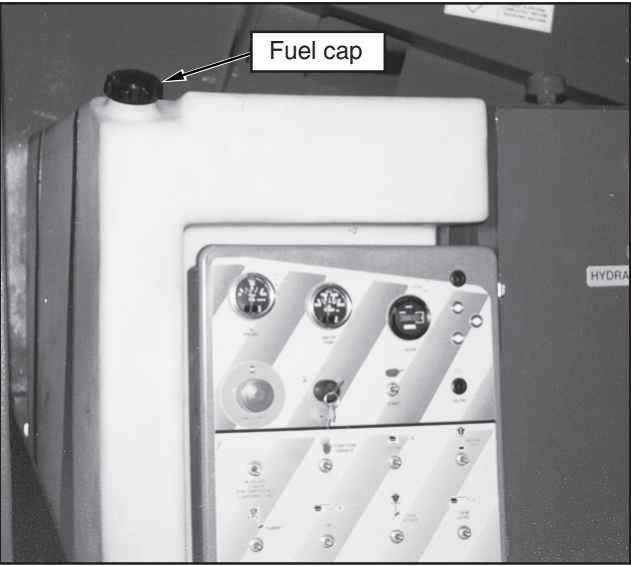

Figure 11: Fuel tank
- 1. Open left turret cover, open fill pipe cap. (see figure 11)